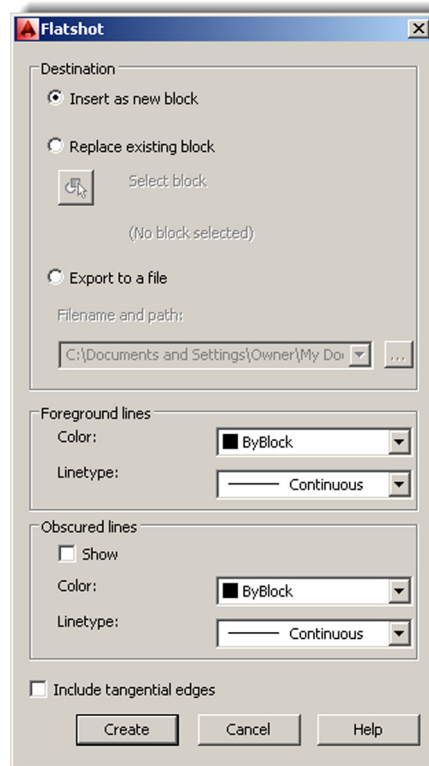

FIGURE 27.19
Step 1. There is no toolbar or cascading menu alternative, but you can use the Ribbon's Home tab→Section panel or type in `flatshot` and press Enter. The dialog box shown in Figure 27.19 appears.